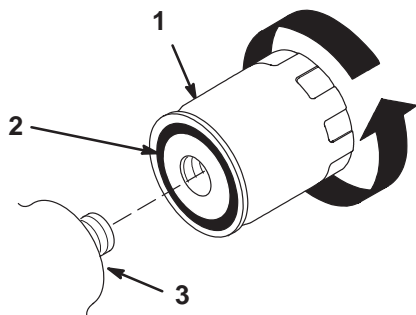

Figure 28
7. Apply a thin coat hydraulic fluid to the rubber gasket on the replacement filter (Fig. 28).
8. Install the replacement hydraulic filter onto the filter adapter. Tighten it clockwise until the rubber gasket contacts the filter adapter, then tighten the filter an additional 1/2 turn (Fig. 28).